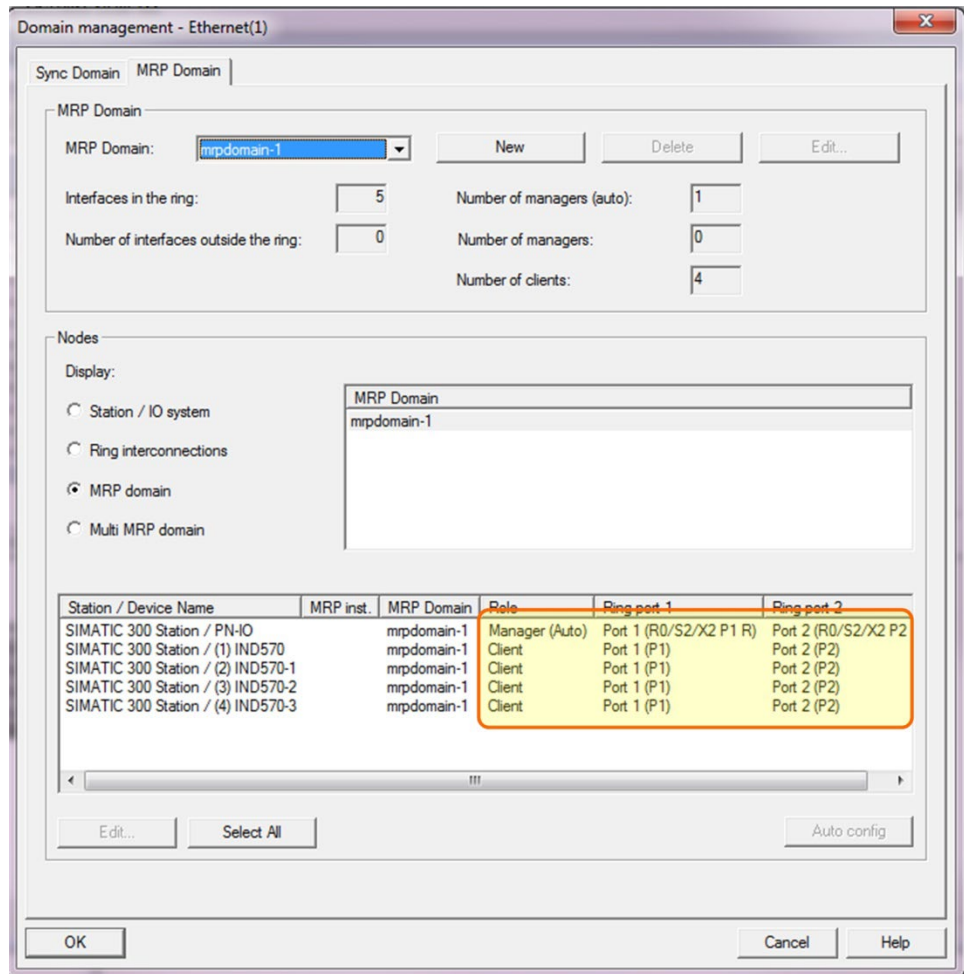

Figure 7-64: Device Properties Correctly Configured
3. The result should be as shown in Figure 7-64.